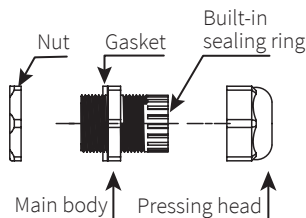

fig. 9
- Check cable compression gland is complete (see fig. 9) and fixed into cable entry hole with the sealing nut.